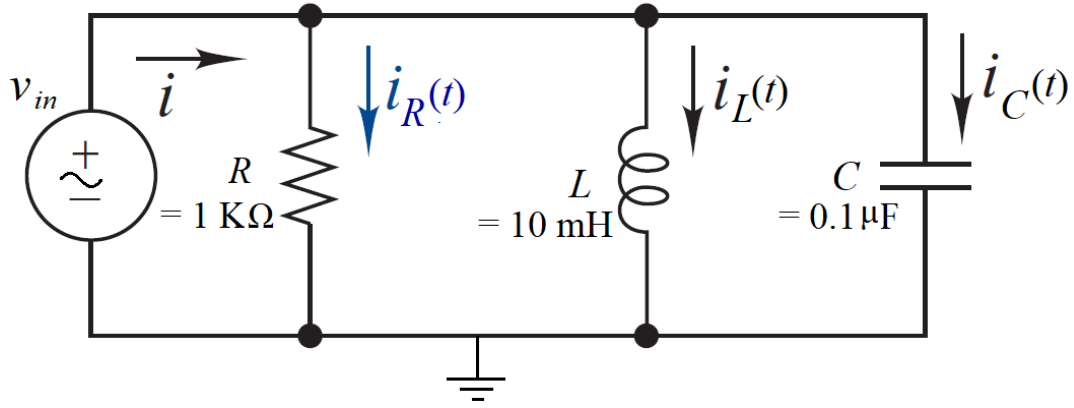

Figure 2: A parallel RLC Circuit.
As we already know that if the capacitive reactance of a circuit is equal to the inductive reactance then the circuit is in resonance condition. Fig. 2 shows a parallel RLC circuit where $i_R(t)$, $i_L(t)$, and $i_C(t)$, are the currents flowing through R , L and C respectively. The voltage across all these three components is same and is equal to v_{in} .
1. For the RLC Parallel circuit, calculate the resonant frequency and connect the circuit as shown in Fig. 2.